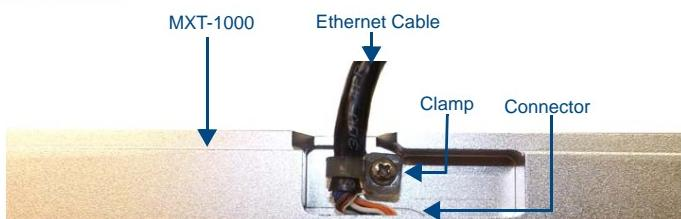

FIG. 4 Bottom of the MXT-1000
2. Remove the clamp holding the Ethernet cable (FIG. 4) until the Ethernet cable moves freely.